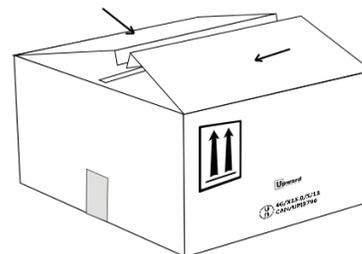

Figure 5
8. Fold 2 larger side flaps and tuck to complete box top. (See Figure 5)